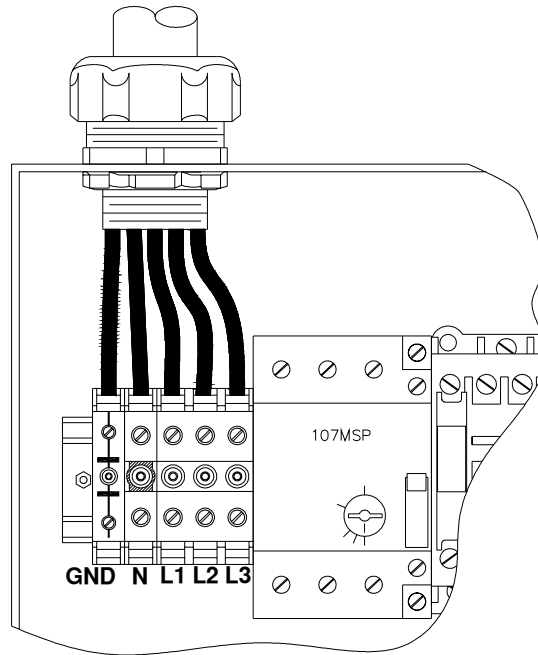

Figure 5. Main Power Connection, 380V
- c) **380V Three-Phase Units Only:** Connect the power leads to L1, L2, and L3. Connect the neutral (N) wire to the blue neutral terminal block on the circuit breaker rail (see Figure 5).